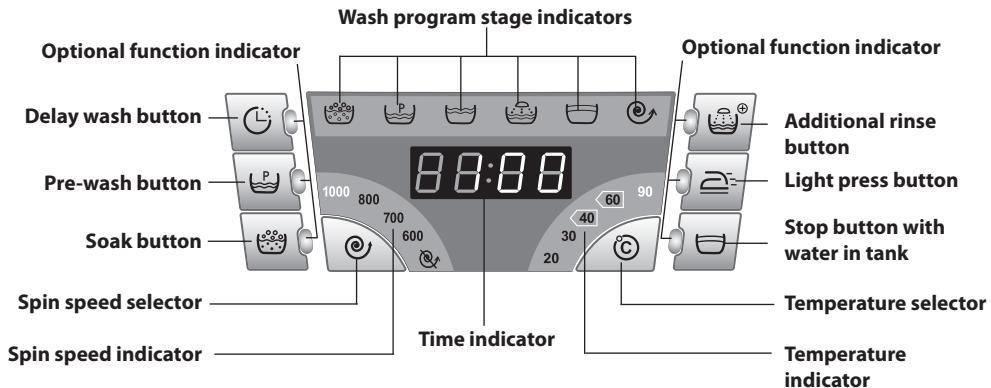

Figure 3 – Display
The selected washing parameters are indicated on the display of the Control Panel (Fig. 3). With putting the button START/PAUSE ► || (Fig. 2) the indicator on the button lights and the laundry washer runs owing to chosen program.
In the time indicator on the display, you may set the time of delay of the washing cycle of the Machine. Optional Machine functions, if necessary, are set by pressing the respective buttons (Fig. 3).
The Machine allows setting the washing temperature below the maximum value provided by the Wash Program in accordance with recommendations of detergent manufacturers. The temperature indicator (Fig. 3) has values of the washing temperature and the symbol  $20^{\circ}\text{C}$ , indicating the washing temperature in the cold water supply.
When selecting the wash program, the temperature indicator highlights the maximum value of washing temperature. To decrease the washing temperature, press the button **②** (Fig. 3) – the values of the temperature will alternate from the maximum value to the  $20^{\circ}\text{C}$ , and then back.
The spin speed indicator shows numerical values of the spin speed – from the maximum value (depending on the model and program) to the minimum one – and the symbol **◎** (the spin is off). When selecting the wash program, the spin speed indicator shows the maximum value of the spin speed. To decrease the spin speed, press the button **③** (Fig. 3) – the values of the spin speed are shown alternately from the maximum value to the **◎**, and then back.